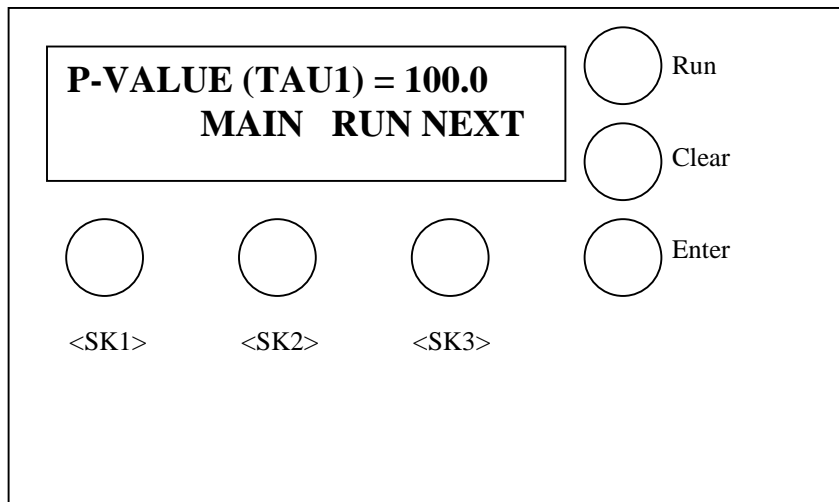

Figure 1
The parameters that set up the Level Transmitter and allow the user to perform the required operations are accessed through the keypad located on the front panel of the Transmitter (Figure 1). There are six (6) buttons, which allow the user to interface with the menu driven software that runs the Density Transmitter.